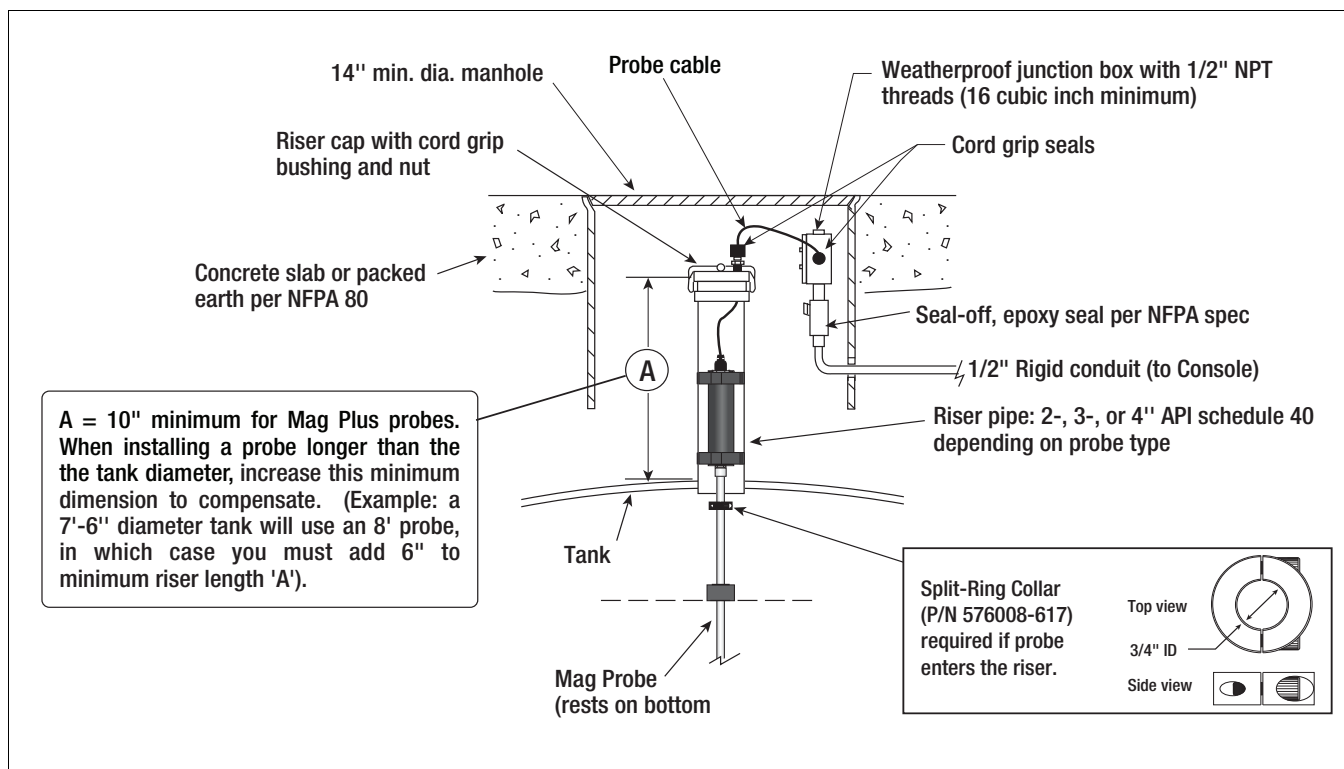
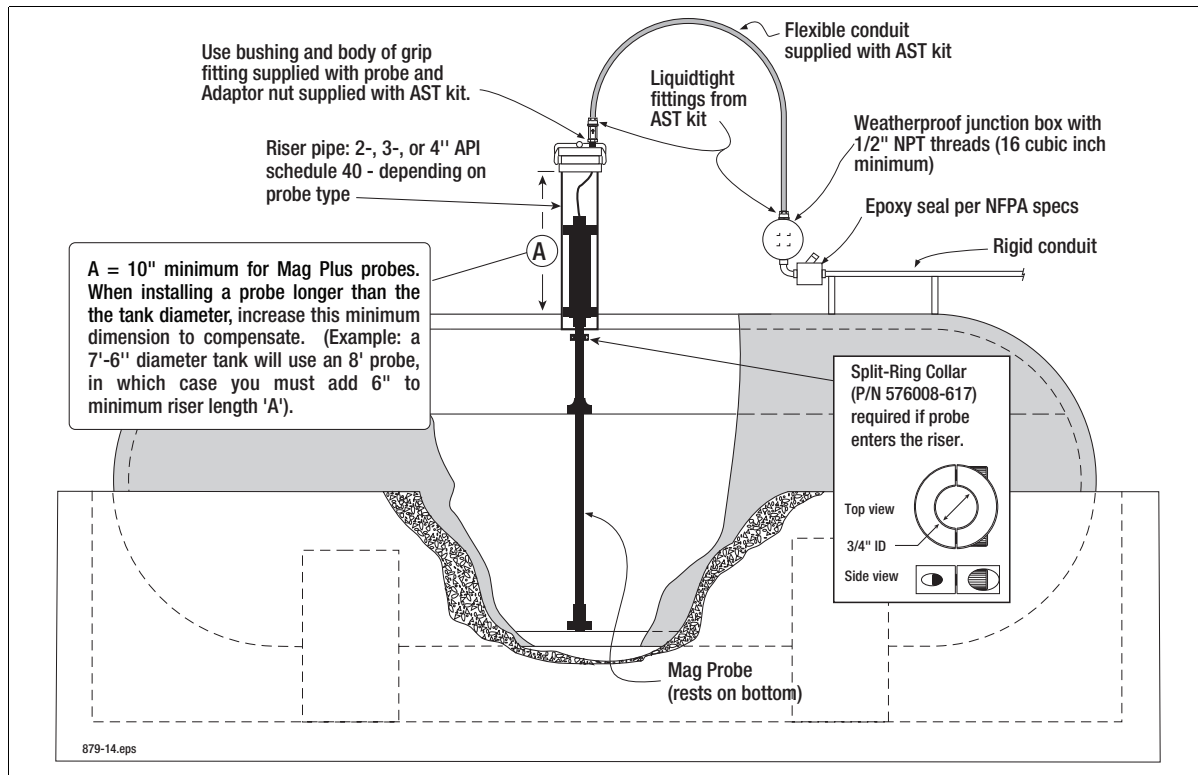

Figure 16. UST Probe Installation - Dedicated Riser
Figure 17. AST Probe Installation - Dedicated Riser
4. Gently slide the float(s) to the bottom of the probe shaft before raising the probe. Carefully lower the probe into the riser pipe until the boot rests on the bottom of the tank [See Figure 16 for UST installation or Figure 17 for AST installation].